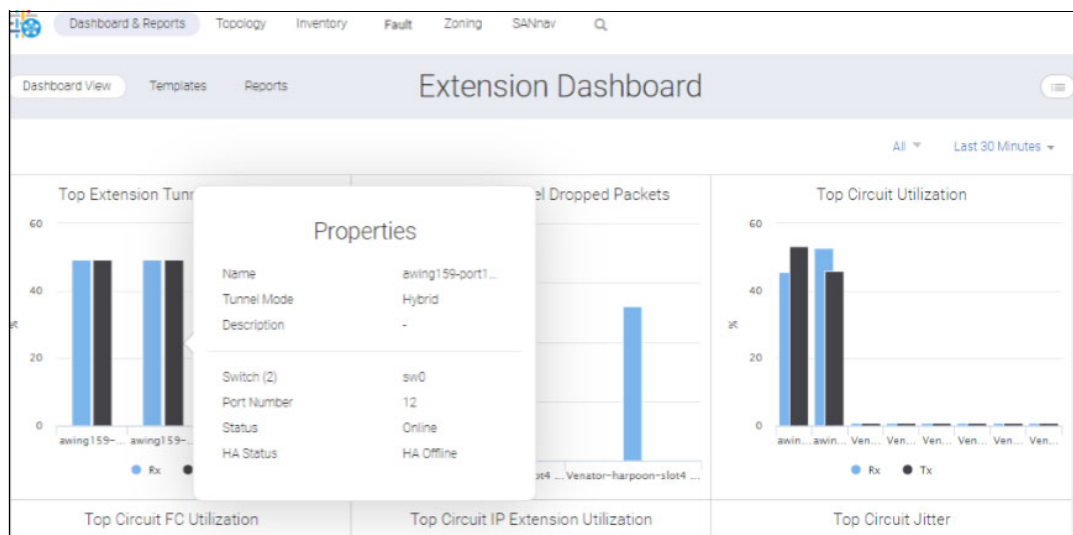

Figure 9-25 Properties of a tunnel
- If you want to show the properties of a tunnel or circuit, click a bar in one of the graphs, and then select **Show Properties** from the list. A list opens with details about the tunnel or circuit. Figure 9-25 shows the properties of a tunnel.